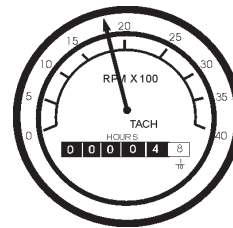

Figure 73. Engine Tachometer
16. The tachometer (Figure 73) will indicate the speed of the engine when the generator is operating. Under normal operating conditions this speed is approximately 1800 RPM's.